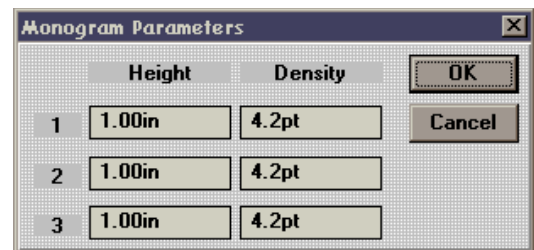

Figure 6-2
4. Click on Monogram in the upper right quadrant of the Text dialog box, and the Monogram Parameters dialog box displays (Figure 6-2). The numbers 1, 2 and 3 refer to the letters in a monogram. Set number 2, the middle letter, at a height of 2.0 inches. Change the density, if so desired.